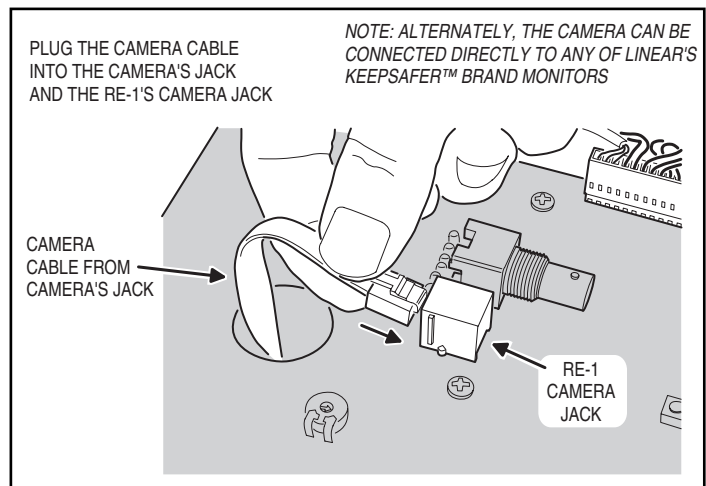

Figure 24. Connecting the Camera Cable
5. Plug the double-ended modular cable into camera's jack and the RE-1 **CAMERA** jack (see Figure 24).